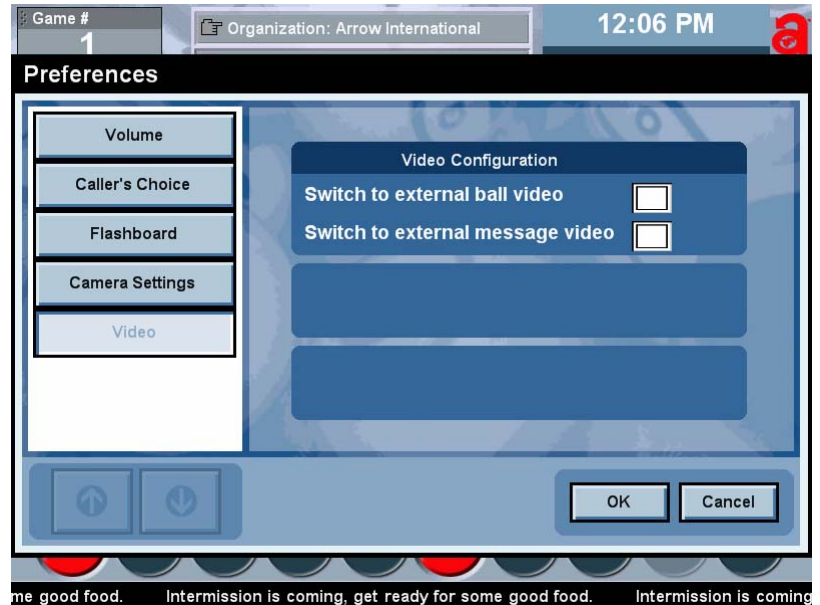

Figure 7.6
4. To View the recorded Session, go to the **Live Game Screen**, touch the **Prefs** button. This will bring up the caller preferences screen. (**figure 7.6**)